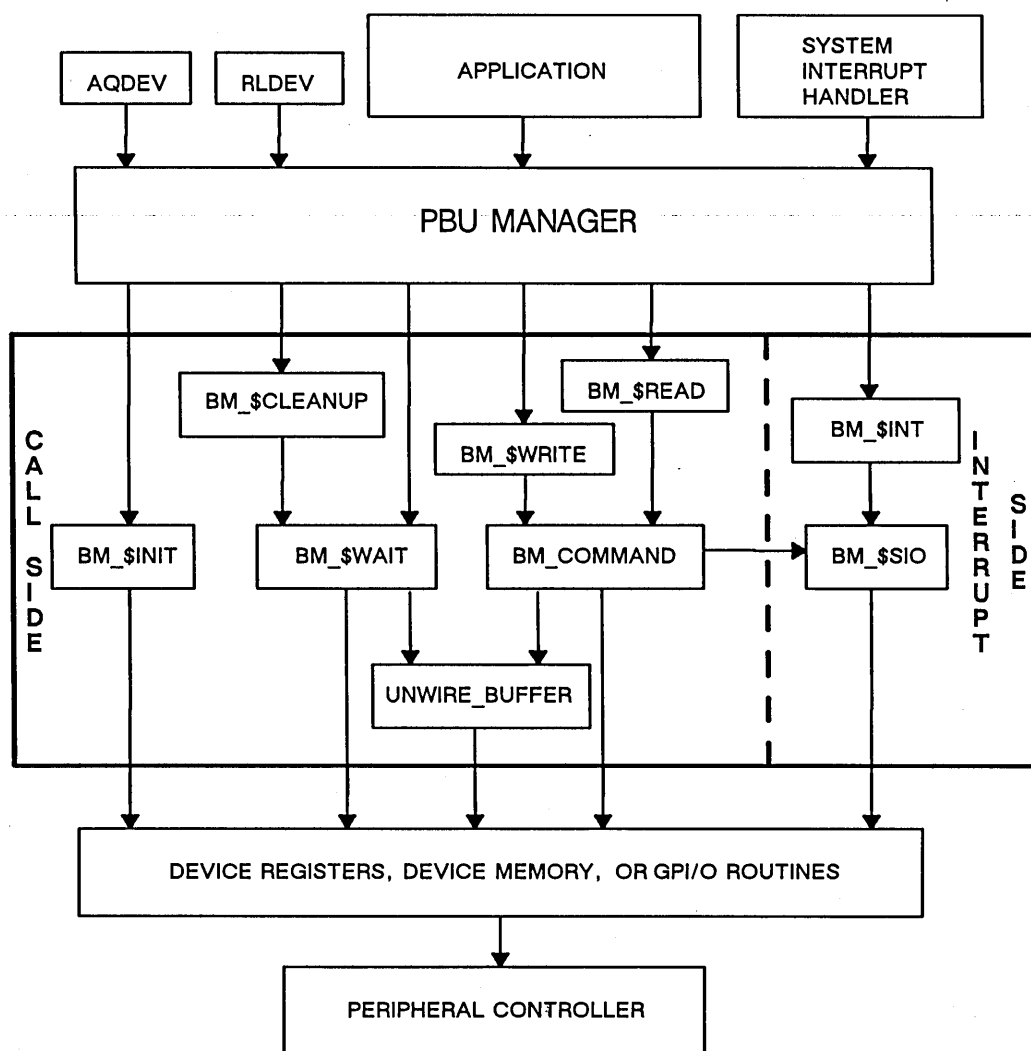

Figure 4-2. Driver Routines in BM_EXAMPLE
You may find the online sample driver in BM_EXAMPLE a good place to begin familiarizing yourself with a driver. In order to give you a feel for how it functions, the following paragraphs step you through a typical DMA operation. The driver was written for a hypothetical bulk memory MULTIBUS device in order to illustrate the general design of a driver and to demonstrate the use of GPI/O routines. For these reasons, the driver and the fictitious controller for which it was written were kept simple: the controller has five 8-bit registers and can perform read and write DMA operations. However, BM_EXAMPLE is a compilable, functioning driver and includes all the major components. Figure 4-2 illustrates how these components relate to each other as well as to the application and GPI/O routines. A slightly reorganized version of the BM_EXAMPLE driver appears in Appendixes E (Pascal) and F (C).